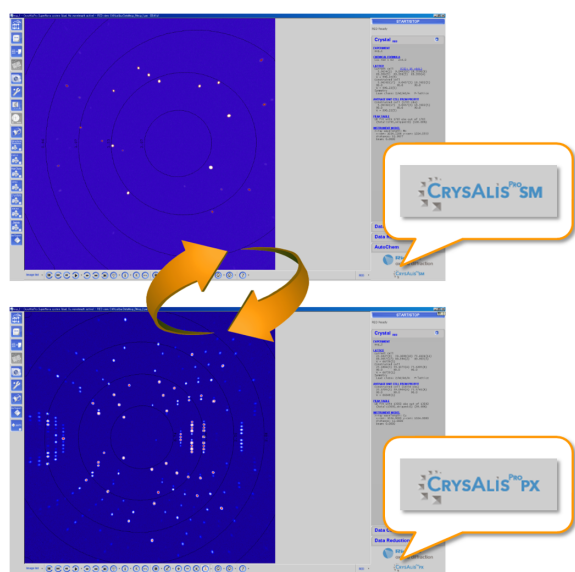

Fig. 3. Switch between SM and PX mode with the click of a button.
Simply toggle between small molecule (SM) and macromolecular (PX) modes for fully optimized workflows and data reduction routines (Fig. 3). Both non-experts and crystallography specialists can set up, run and process experiments intuitively and efficiently, in fully automatic, semi-automatic and manual modes, adjusting analytical strategies for a wide variety of experimental targets including redundancy, time and resolution. An intelligent pre-experiment evaluation of crystal quality automatically suggests optimal experimental parameters, increasing productivity and accuracy. CrysAlisPro boasts a comprehensive package of absorption correction methods and a highly effective range of specialized tools and functions for the most complex datasets. Synchrotron data can be imported, and experimental results for use in other crystallography software.